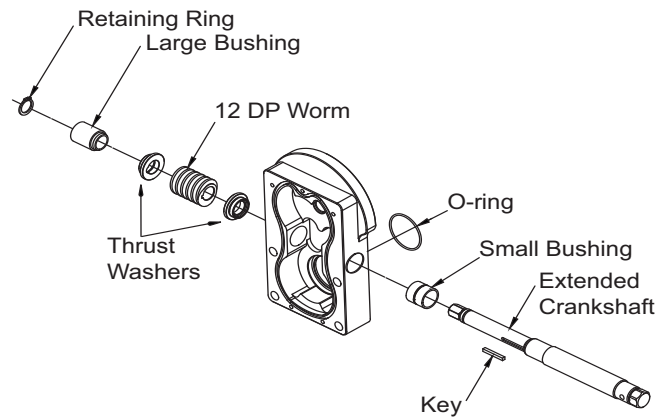

Figure 8.3.3
4. Remove O-ring (see Figure 8.3.3) from main gearbox. Save the O-ring for reassembly. DO NOT REMOVE the four socket head screws from the main valve gearbox.
1. Install O-ring (see Figure 8.3.3) around the bushing that protrudes from the main valve gearbox.